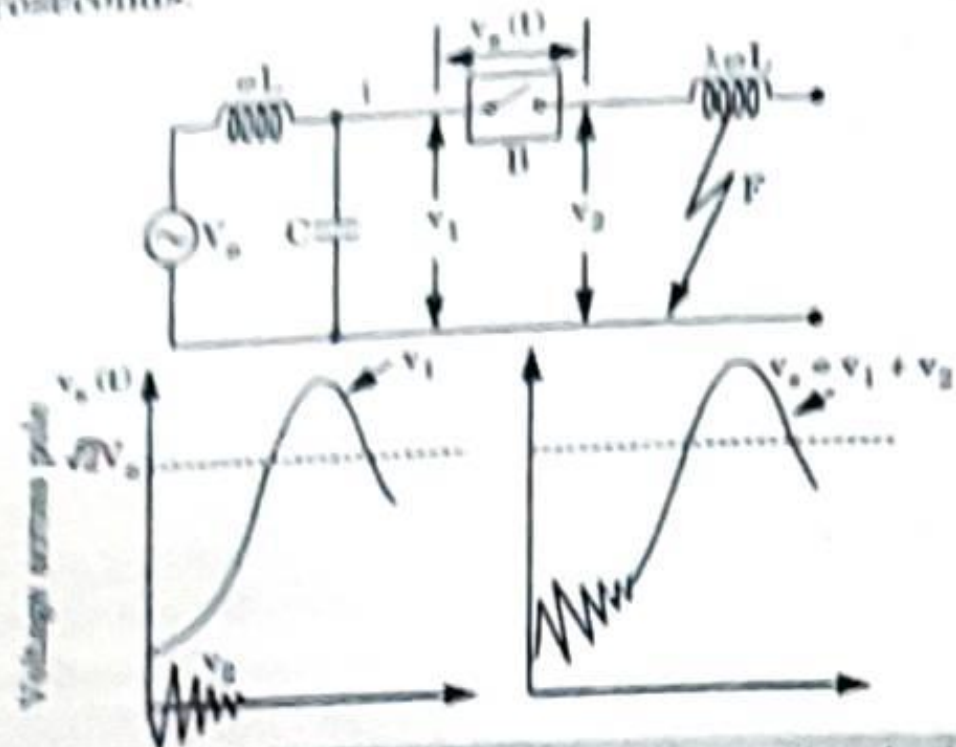

Fig. 4.15.1. Condition representing short line fault (kilometric fault) and (t in microsec).
- Fig. 4.15.1 represents a condition of a short line fault and simplified TRV form.
- Fig. 4.15.1 supply voltage cause short circuit current I to flow through the circuit comprising the following impedances :
- c. The voltage v_1 has power frequency component and high frequency component and reaches a peak value $\sqrt{2} V_n$ as illustrated in the Fig 4.15.1, whereas v_2 has sawtooth waveform and drops to zero after a few microseconds.